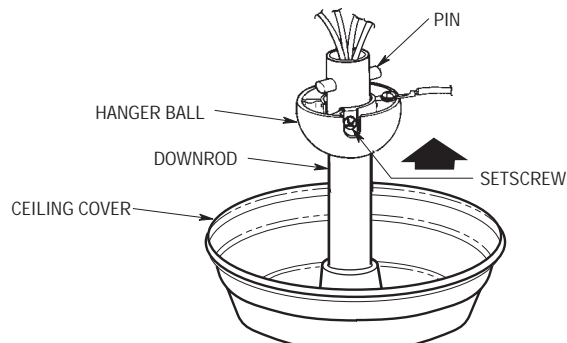

Figure 21
- 11. Position the ceiling cover over the downrod. Be sure the cover is oriented correctly, with the large opening at the top (Figure 21).
- 12. Reinstall the hanger ball on the downrod as follows. Route the motor leads through the hanger ball and slide the hanger ball over the downrod (Figure 21). Install the pin through the holes at the top of the downrod and slide the hanger ball up the downrod, aligning the ball so the pin is captured in the groove in the top of the hanger ball. Pull the hanger ball up tight against the pin and securely tighten the setscrew in the hanger ball. A loose setscrew could create fan wobble.